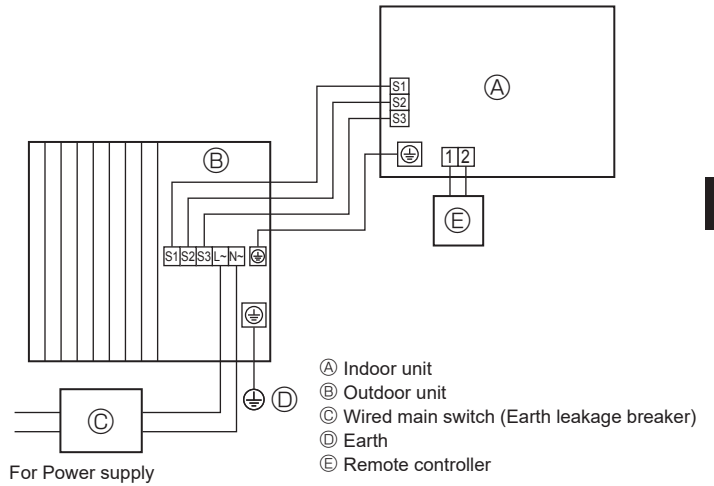
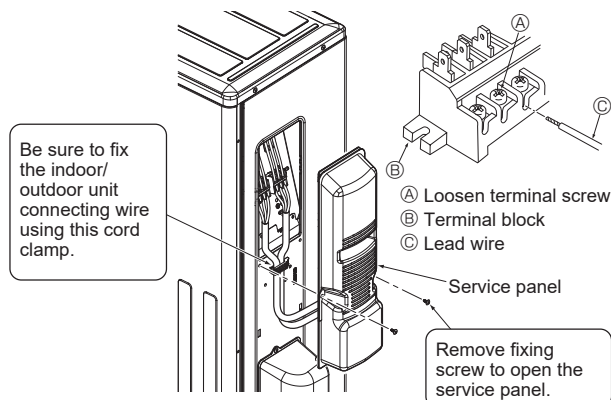

Fig. 6-1
Fig. 6-3
6.1. Outdoor unit (Fig. 6-1, Fig. 6-2, Fig. 6-3)
- ① Remove the service panel.
- ② Wire the cables referring to the Fig. 6-1, Fig. 6-2 and the Fig. 6-3.